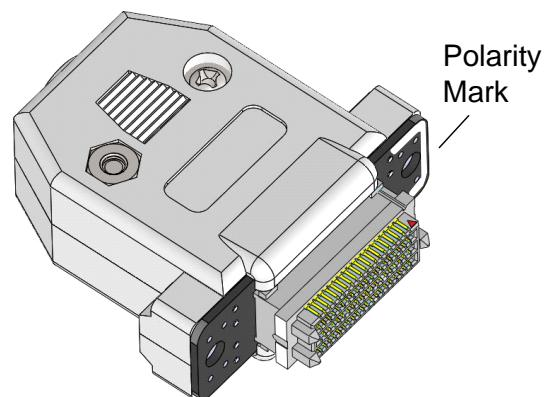

Figure 3-15 Connector Hood Closed
3. Close the connector hood and fasten the screws. See Figure 3-15.